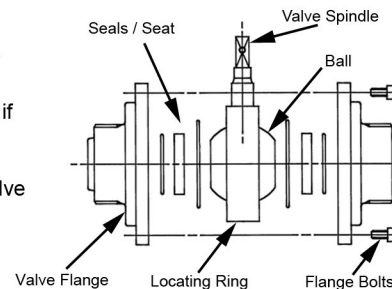
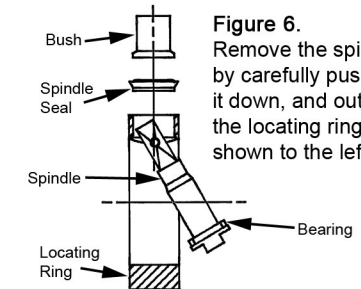

Figure 5.
Figure 6.
4. Place the valve assembly on the bench and carefully remove the seals and all valve internals from the valve flanges. See figure 5. PTFE seals are easily damaged, take care when removing. The spindle seals can be carefully removed from the location ring as shown in fig 6.
5. To refit the spindle seal first fit the bearing onto the spindle then insert the spindle into the locating ring as depicted in figure 6. Hold the spindle in place with the bearing correctly located in the inner recess of the locating ring. Next push the spindle seal with "O" ring facing upwards onto the spindle followed by the bush. Push the spindle seal firmly into the locating ring using the bush. Make sure the spindle seal is fully home.